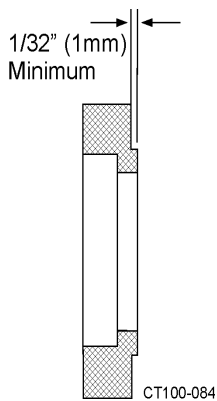

Figure 26 - Push Rotary Seal Down
7. With the backplate resting on the impeller, push the rotary seal toward the backplate until the o-ring is free (Figure 26).